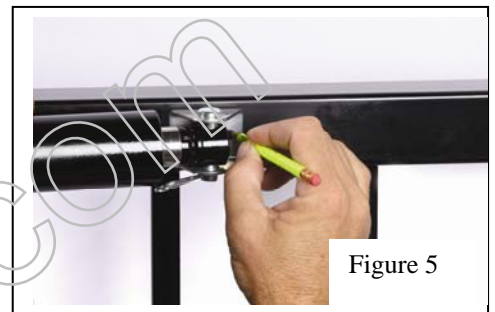

Figure 5
4. There are 2 - 1/4" holes in the bracket. They can be used to screw the bracket to the gate before welding if desired (see figure 5 & 6).